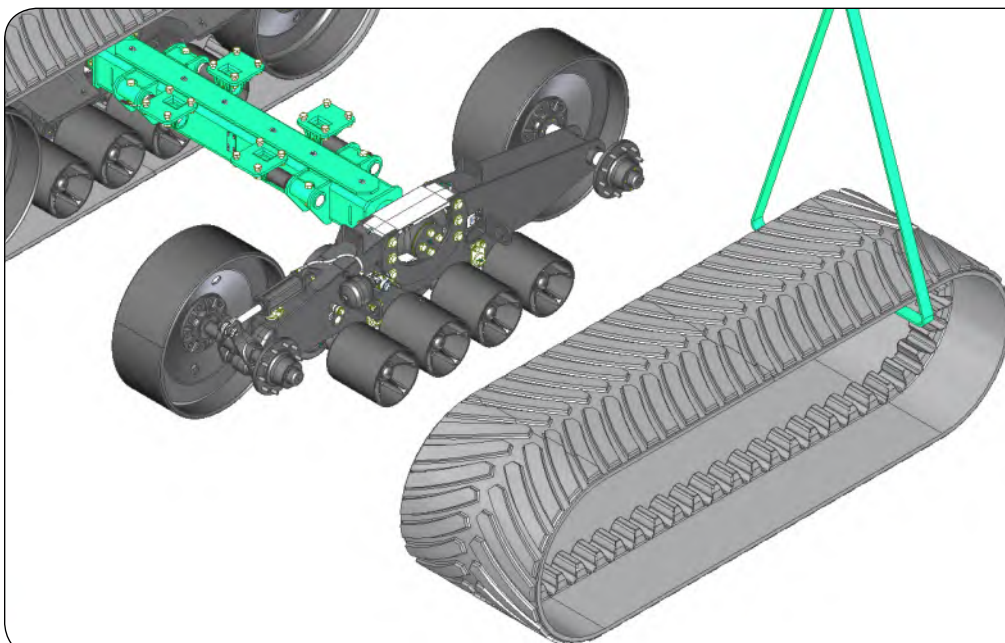

Fig. 4-10
9. Using a safe lifting device rated at 3,000 lbs., remove the track belt and pull the track belt away from the track assembly. (Fig. 4-10)